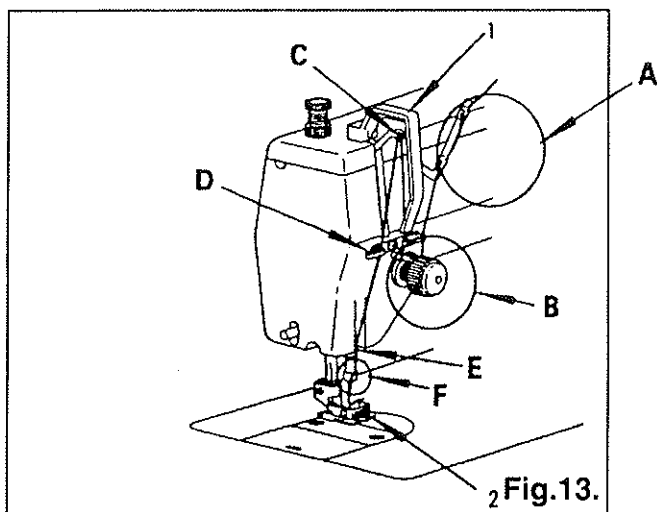
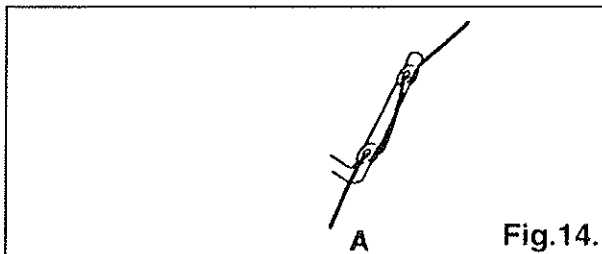
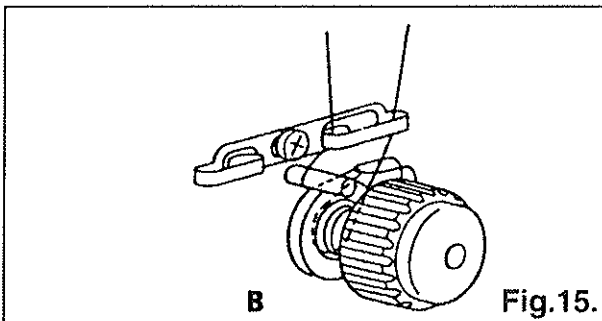

Fig.13.
Fig.14.
Fig.15.
- 1.Lead thread from the thread unwinder through all the threading points A (Fig.14),B (Fig.15), C (Fig.13), D (Fig.13),E (Fig.13) and F (Fig.16) in the order shown.